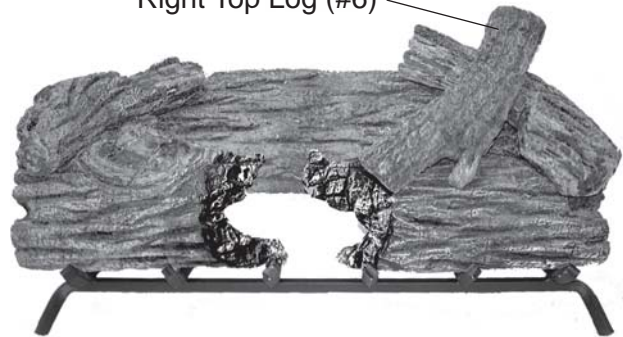

Figure 31 - Installing Right Top Log (#6)
7. Install right top log #6 as shown. *See Figure 31.*